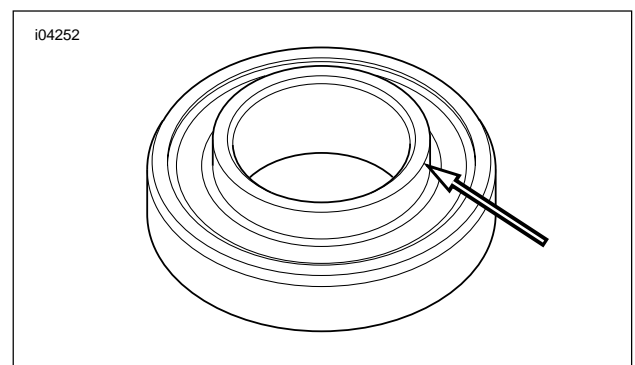

Figure 2-75. Steering Head Bearing Lip
- a. See Figure 2-75. Place the upper bearing squarely in the steering stem bore with the inner race lip pointing away from the steering head.